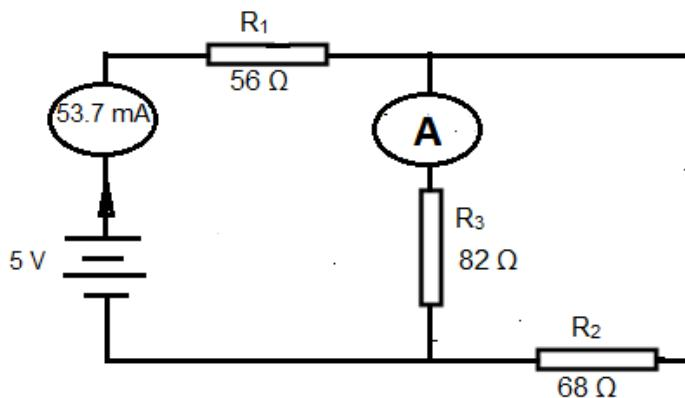

FIGURE 3.1: RESISTOR COMBINATION CIRCUIT
3.8 A resistor combination circuit is shown in Figure 3.1.